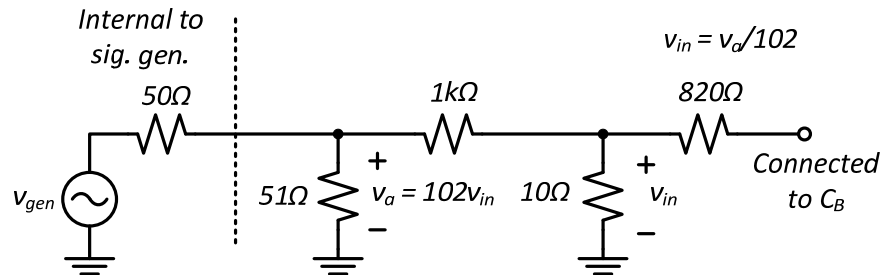

Figure 2. Attenuator circuit with 830Ω source impedance.
L4.1 Build the amplifier. Be careful with polarities of electrolytic capacitors (especially C_B). It will help to add a large decoupling capacitor between V_{DD} and ground of $> 10\mu F$. Use the input stage shown in Figure 2 between the signal generator and your circuit as a 102x attenuator with a source impedance of 830Ω. Note that the attenuation is with respect
- L4.2** Apply an input sine wave to your complete circuit through the attenuator in Figure 2 and measure the gain as a function of frequency. The amplitude of the input sine wave should be set to result in an output peak-peak voltage of around 200mV in the midband. Choose a set of frequencies to measure the gain based on the response of your amplifier. Record these gains and frequencies in your lab report. Record the exact lower and upper cutoff frequencies (3dB down points), as well as the midband gain. Also measure the power dissipation of the circuit. Show the working circuit to the GSI to get checked off.